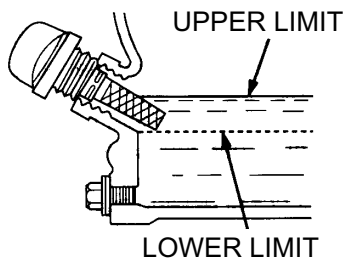

Figure 5. Engine Oil Dipstick (Oil Level)
4. If the oil level is low (Figure 5), fill to the edge of the oil filler hole with the recommended oil type (Table 4). Maximum oil capacity is 0.63 quarts (0.6 liters).